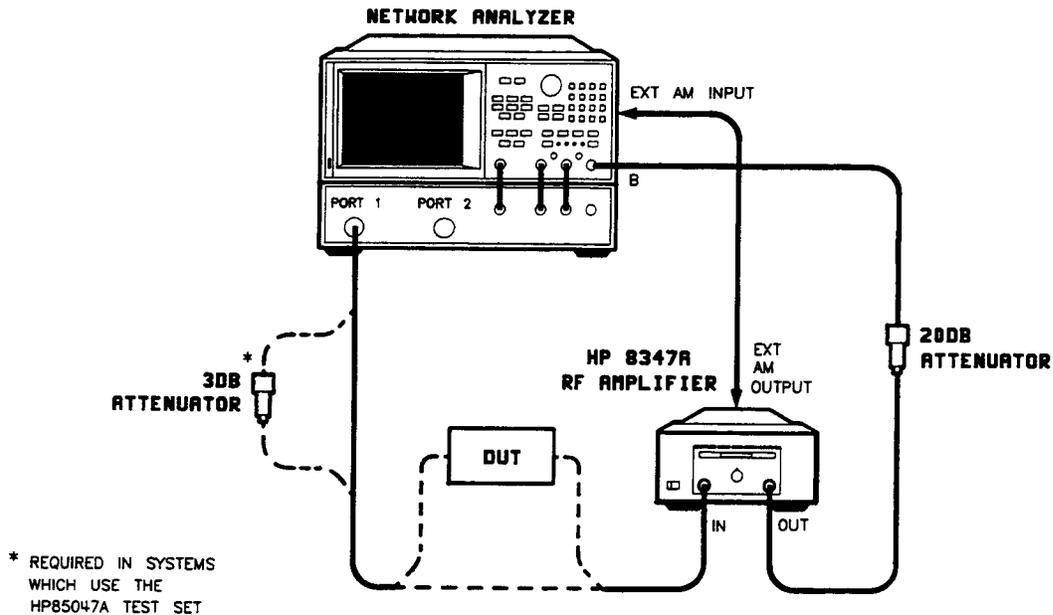

Figure 3-3. Extended Dynamic Range Setup
1. Set up equipment as shown in Figure 3-3. Initially, the output of port 1 should be connected directly to the input of the amplifier.
2. Set up the equipment as shown in Figure 3-3. The output of Port 1 should be connected directly to the input of the amplifier.